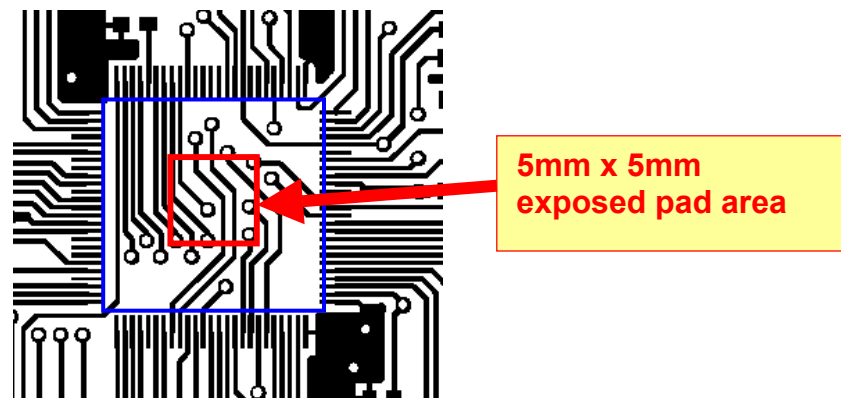

Figure 9: Problematic Routing underneath 71M6513 Chip
7. It is unrelated to EMI (but very important none the less) when using the 71M6513 chip, to make sure that no traces or vias are located in the area that is covered by the 5mm x 5mm exposed ground pad (for an example, see Figure 9, showing routing patterns that are not recommended).